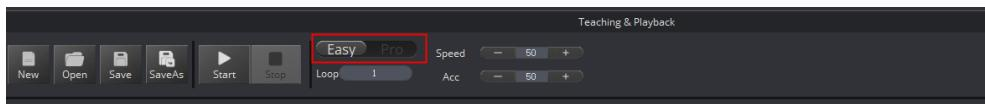

Figure 5.209 Switch advanced function
**Step 1** Click  icon on the **Teaching&Playback** page, as shown in Figure 5.209.